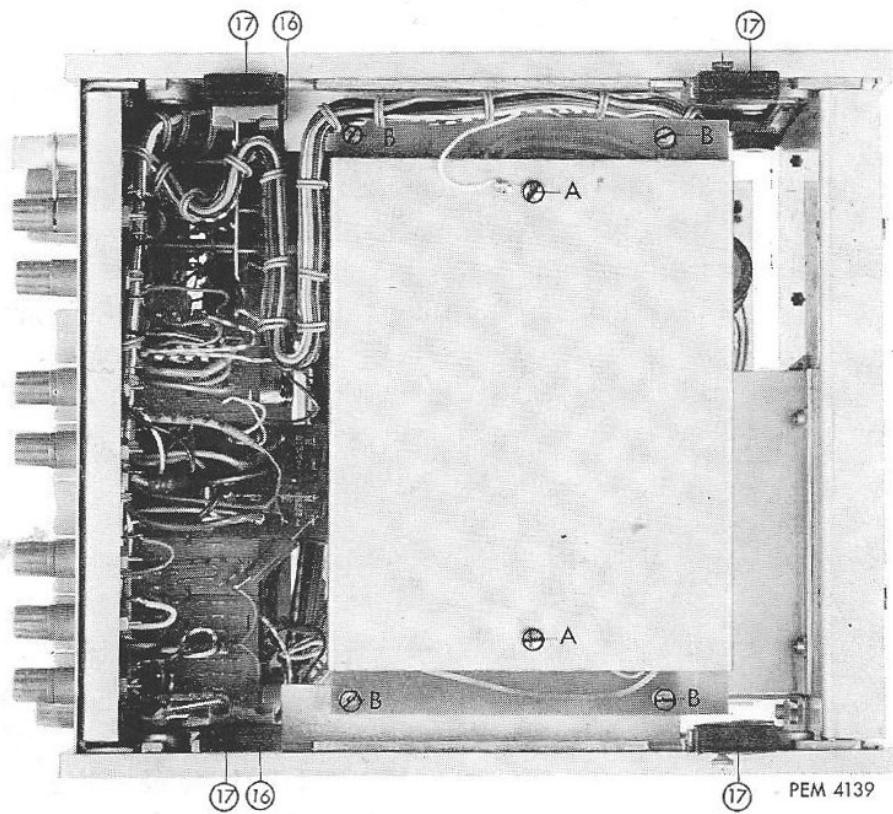

Fig. 16. Bottom view (bottom plate removed)
- Remove the two screws "A" (Fig. 16) and take out the lower screening plate. The wiring side of the printed circuit board is now accessible.
- Remove the 4 screws "B" (Fig. 16).